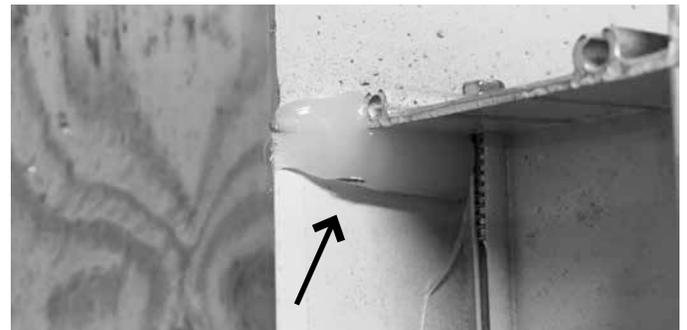

Figure 10
10. Prior to installing aluminum windows, apply a ½” bead of exterior grade sealant on the back side of the flange in the corners to ensure a water resistant installation. (**Fig. 10**)